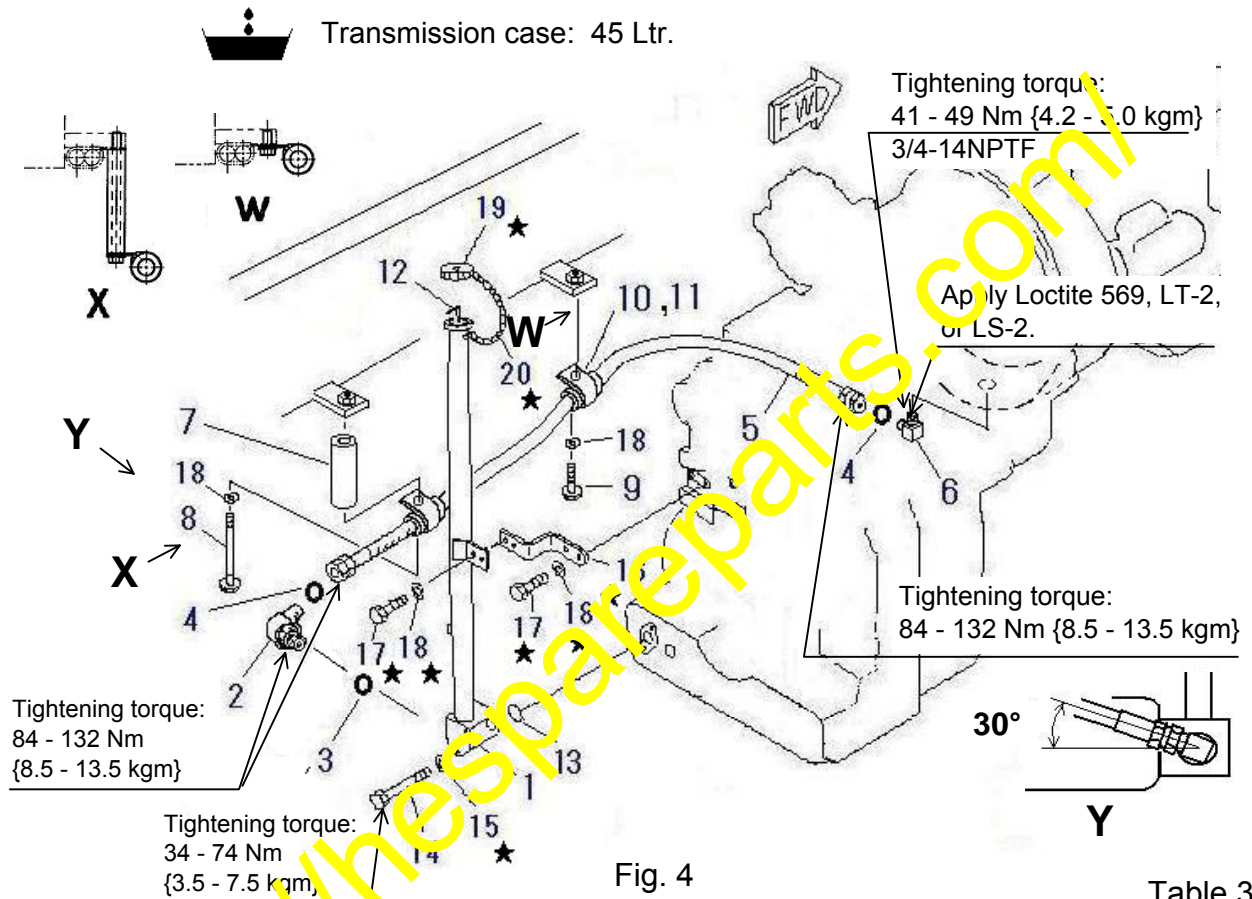

Fig. 4
(4) Modification to add an oil return piping inside the flywheel housing (Fig. 4 & Table 3)